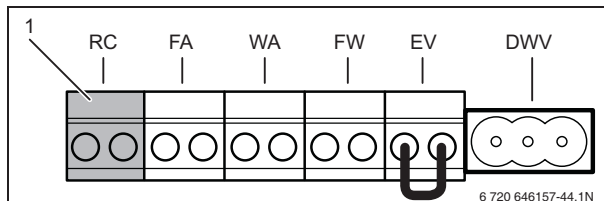

Fig. 44 External connection board - Room controller RC and EMS bus (connection color orange)
- Connect the EMS bus connection cable to the orange RC connection of the external connection board (fig. 44, [1])